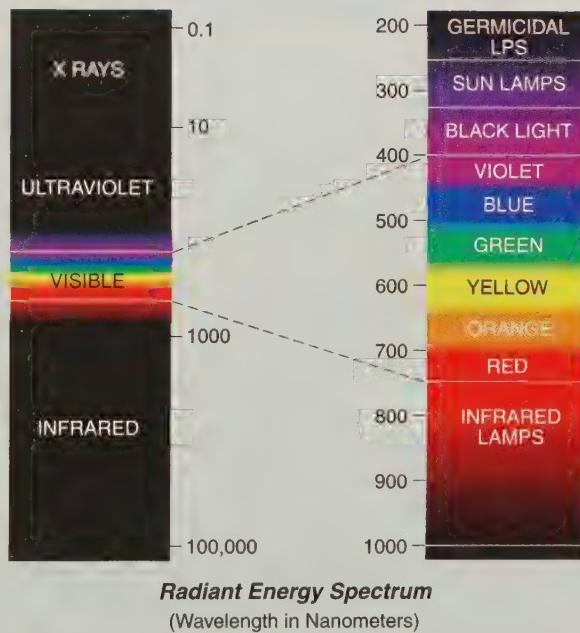

Figure 7-1. Infrared radiation is that part of the electromagnetic spectrum at longer wavelengths than visible light.
Bodies that are at thermal equilibrium must balance the energy entering that object, such as heat or light, with the energy leaving that object. The energy leaving the surface of an object is often emitted as electromagnetic radiation. An *IR thermometer* is a thermometer that measures the infrared radiation (IR) emitted by an object to determine its temperature. Infrared radiation is that part of the electromagnetic spectrum with longer wavelengths than visible light. See **Figure 7-1**.